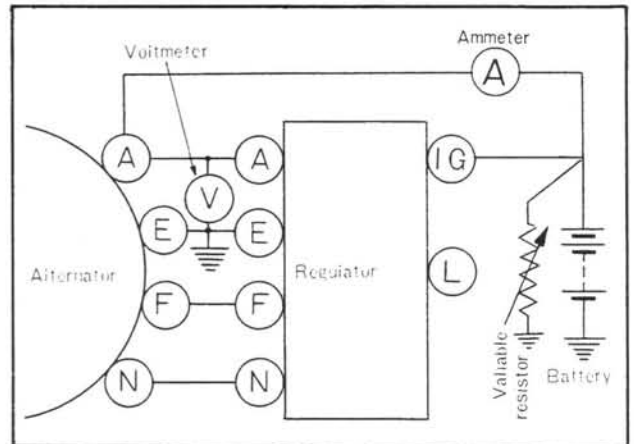

Fig. 5-17 Checking of constant voltage relay
To check, use an almost fully charged battery and connect a voltmeter between the (A) and (E) terminals of the regulator, as shown in Fig. 5-17.